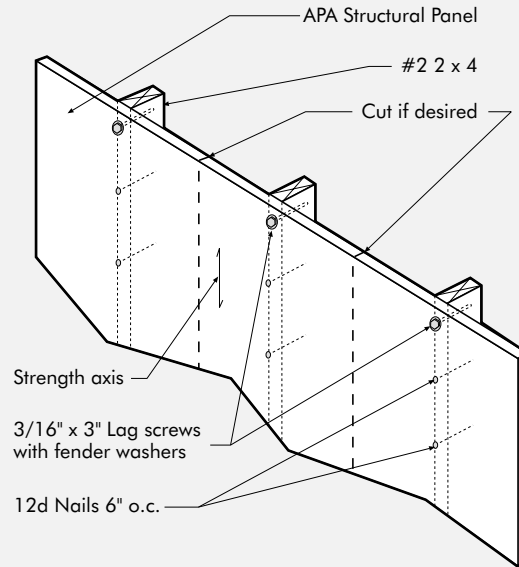

FIGURE 2
1. Review Tables 1 and 2 in the Design Considerations section to determine if stiffeners are needed. Attach stiffener as shown in Figure 2.
2. Cut APA wood structural panels with adequate edge overlap to receive nails. Orient long panel axis (strength axis) of the panel as shown in Figure 2.